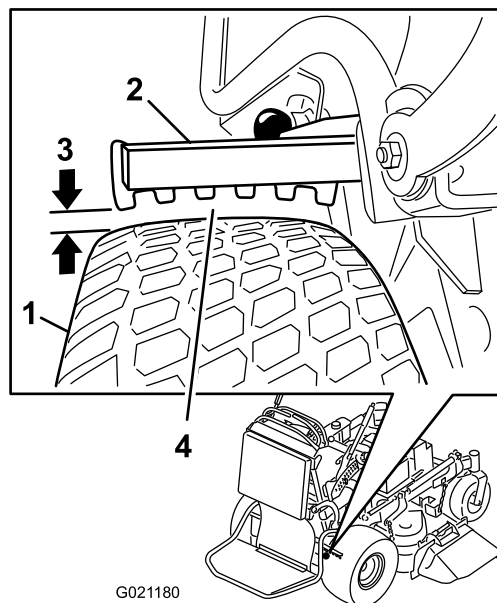

Figure 61
6. Using the side with the smallest clearance, ensure that the distance is between 3 and 6 mm (1/8 and 1/4 inches) as shown in Figure 61; refer to Adjusting the Brakes \(page 44\) when adjustment is needed.
5. Adjust the yoke (Figure 61).